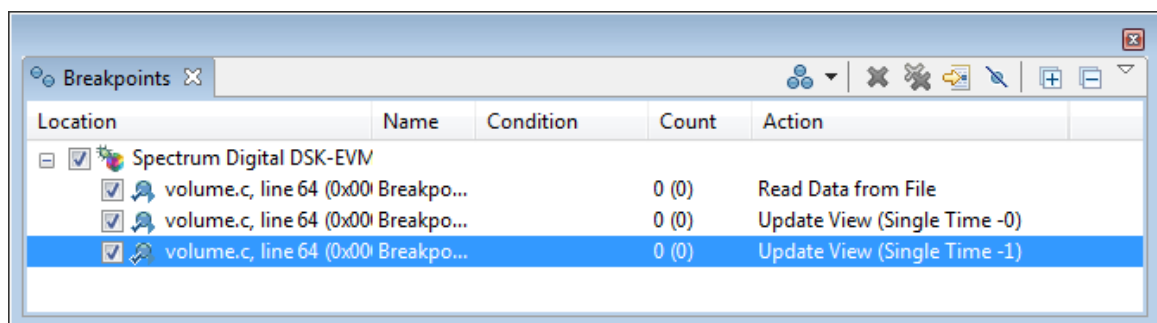

Figure 23: breakpoint window with 3 operations to do on 1 breakpoint
4. Repeat steps 1 to 3 but this time select **Single Time -1** as the view to update. The Breakpoint window should look like the figure 23: